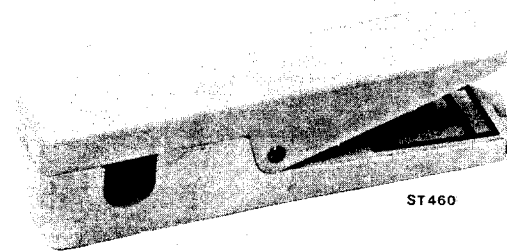

Fig. 5. Current transformer PM 9245
3.2.3. Current transformer type PM 9245 (Fig. 5)